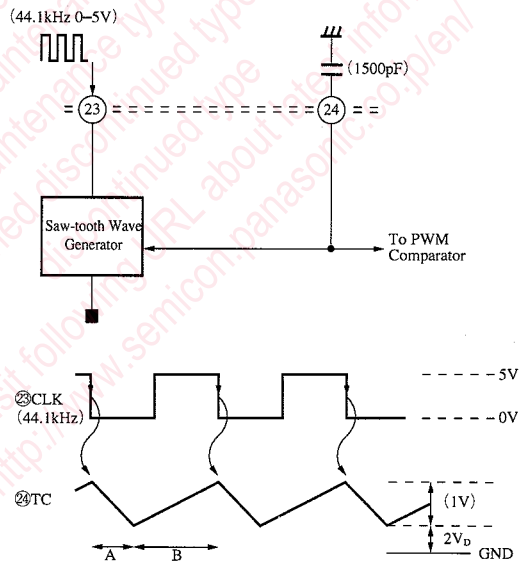

Fig.4 Saw-tooth Wave Generator
(3) Saw-tooth wave generator
● Fig.4 shows the relationship between the input signal to the Pin⑳ and the output waveform of the Pin㉔.